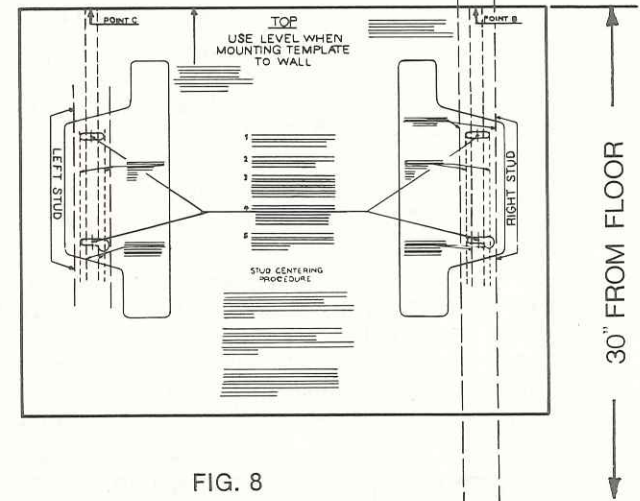

FIG. 8
3. Using tape, mount the template provided to the wall aligning the right side center line marks (point B on template) with the right hand stud you have located. (Suggested Work Center height—30" from floor). (Figure 8)